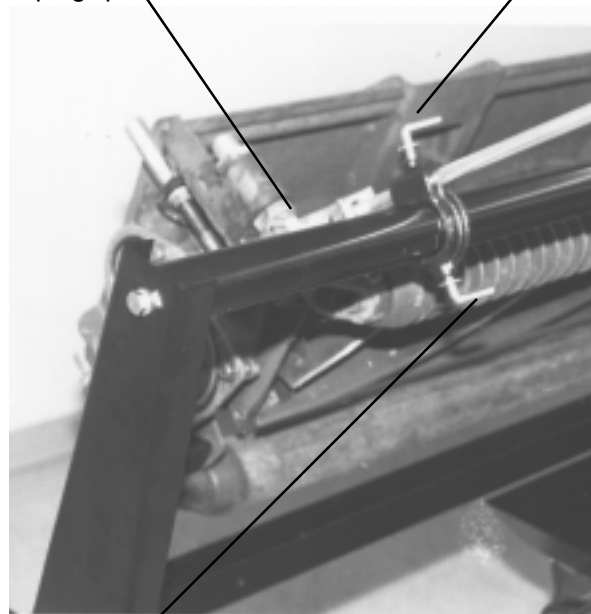

FIG. 10
Loosen the two (2) screw handles on each overhead clamp and move them to where the overhead clamp rods with clamping lips can be attached to the reel. This can be a mounting bolt on the reel or a reel cross bar. Tighten the clamping lips to the mowing unit on both sides, then securely tighten the (2) locking handles on the right side overhead clamp. Tighten the overhead housing to the large cross bar on the left side, but do not tighten the slide bar clamp until reel has been aligned. See FIG. 10.
Do not tighten the left side slide bar clamp where rods are inserted into the lower part of the clamp until reel has been aligned. See FIG. 10.
Before starting the alignment, the lock handles on the left overhead support slide bar must be loose, so that support can float free while alignment is being made. See CAUTION note on page 10 and FIG. 10.